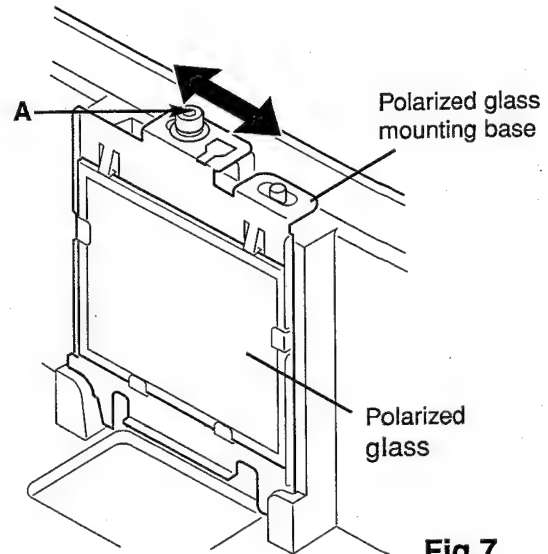

Fig.7
2. Loosen a screw "A" (Fig.7/8) on the polarized glass mounting base which you intend to adjust.
3. Turn the polarized glass mounting base as shown in Fig.7 to obtain the darkest brightness on the screen.